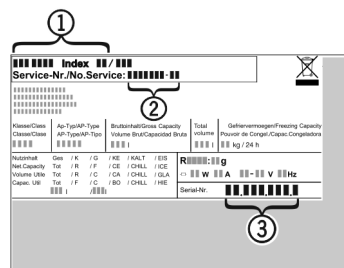

Fig. 3
- ▶ Read the appliance designation Fig. 3 (1), service No. Fig. 3 (2) and serial No. Fig. 3 (3) off the model plate located inside the appliance on the left-hand side.
- ▶ Notify the customer service, specifying the fault, appliance designation Fig. 3 (1), service No. Fig. 3 (2) and serial No. Fig. 3 (3).